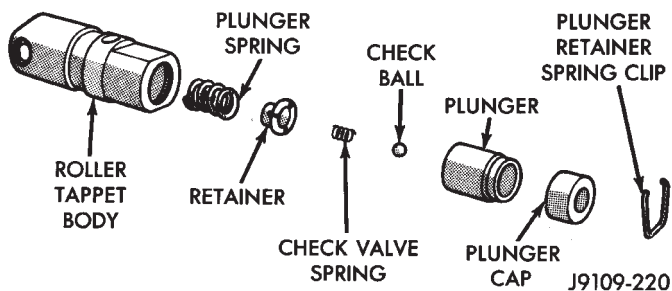

Fig. 49 Hydraulic Tappet Assembly
- (1) Pry out plunger retainer spring clip (Fig. 49).
- (2) Clean varnish deposits from inside of tappet body above plunger cap.
- (3) Invert tappet body and remove plunger cap, plunger, check valve, check valve spring, check valve retainer and plunger spring (Fig. 49). Check valve could be flat or ball.
- (1) Clean all tappet parts in a solvent that will remove all varnish and carbon.
- (2) Replace tappets that are unfit for further service with new assemblies.
- (3) If plunger shows signs of scoring or wear, install a new tappet assembly. If valve is pitted, or valve seat on end of plunger is prevented from seating, install a new tappet assembly.
- (4) Assemble tappets (Fig. 49).